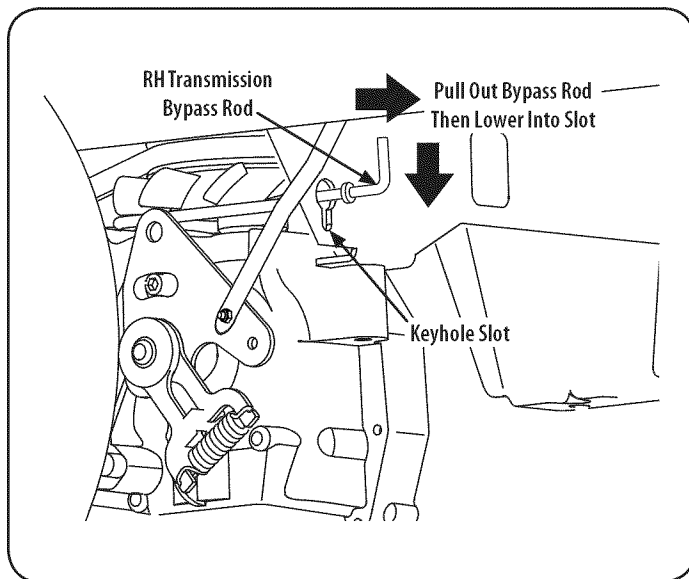

Figure 1
1. Locate the hydrostatic bypass rod in the rear of the riding mower. See Figure 1.